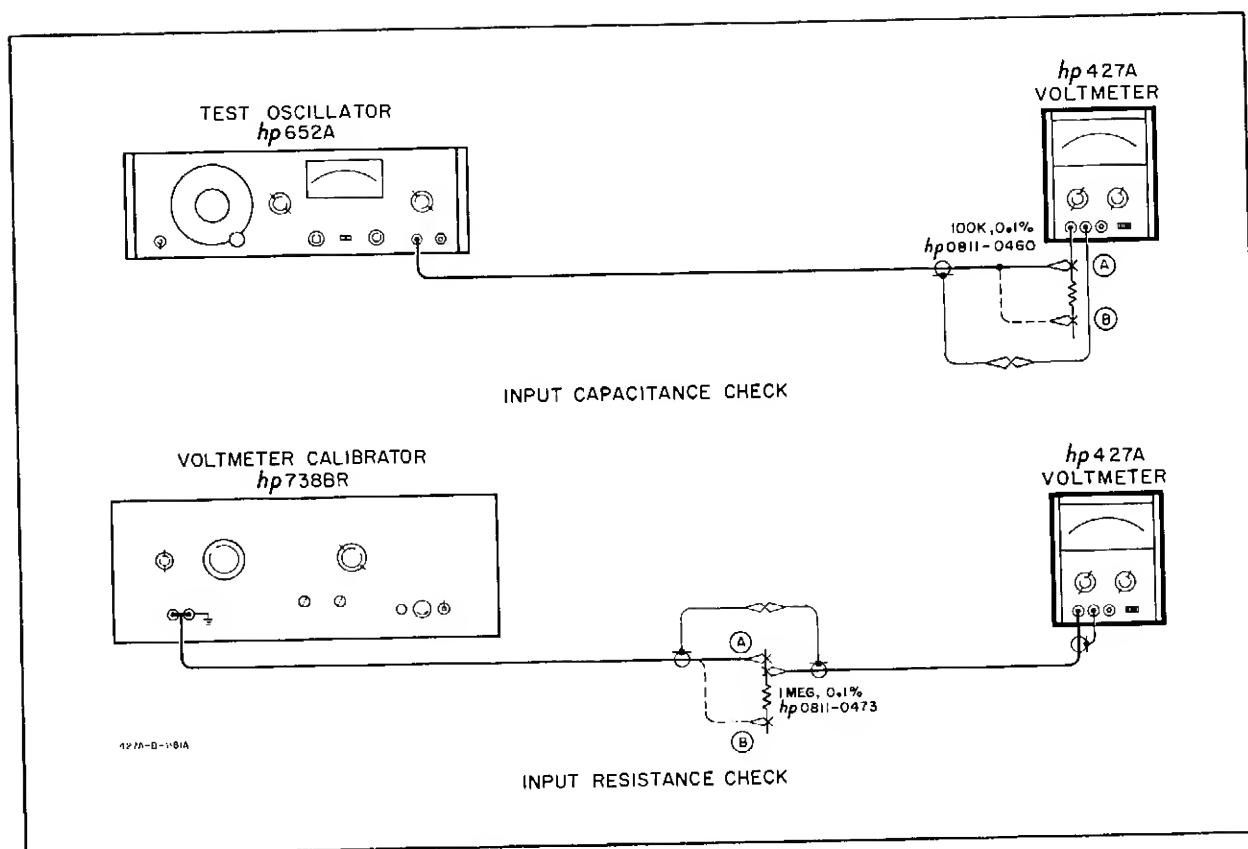

Figure 5-5. Input Impedance Check
5-22. Figure 5-5 shows the setup for the input resistance check. A 1 M Ω resistor is connected in series with the input, and the voltage drop across the input resistance will be:
- a. Connect the Model 427A and the voltmeter calibrator to position A illustrated in Figure 5-5. Set the Model 427A FUNCTION to +DCV and RANGE to 1 V.
- c. Connect the voltmeter calibrator to position B shown in Figure 5-5.
- Connect oscillator and Model 427A to position A of the input capacitance check (Figure 5-5), and set the Model 427A FUNCTION to ACV and RANGE to 1 V.